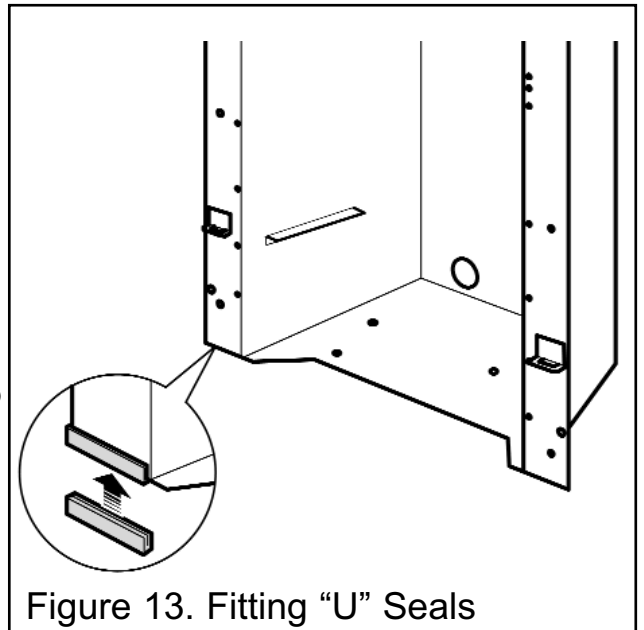

Figure 13. Fitting “U” Seals
4. Fit the two “U” section seals to the bottom edges of the hotbox side flanges (See figure 13).